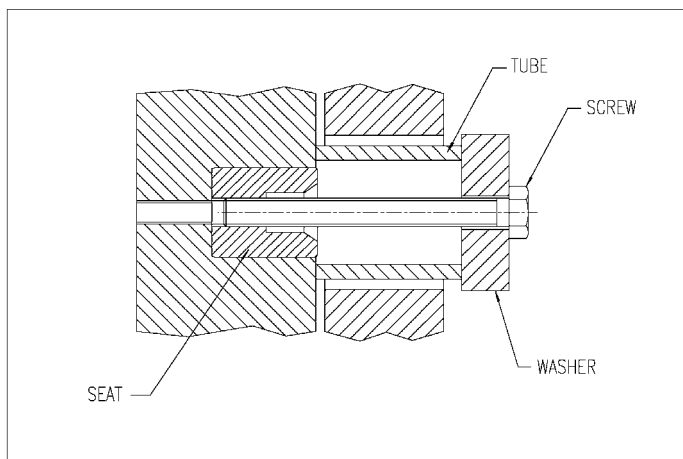

Fig.6 Method of removing seat
10.2) Remove the screw from the centre of the seat. Remove the seat using an extractor screwed into the tapped hole in the centre of the seat (see table 4 for thread size). The force from the extractor should be reacted by the metal surrounding the seat, so that the torque limiter bearing is not loaded. A suitable arrangement is shown in fig. 6.